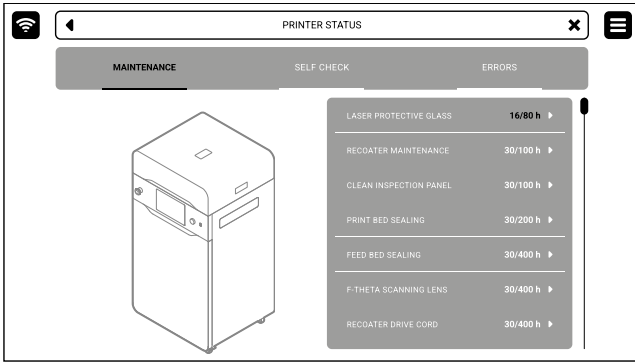

Fig. 13.85 The printer maintenance tab.
1. On the **PRINTER STATUS** tab, select the **CLEAN INSPECTION PANEL** position (fig. 13.85).